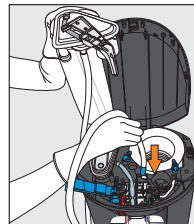

Figure 37
10. Insert water line of replacement SmartFlo™ SF-1 Water Cartridge through the guide tube, and push through to bottle installation area (Figure 37).